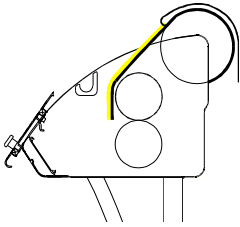

Figure 12
- Unroll the film on the top supply shaft, so that an adequate length is hanging over the top roller (see figures 12 & 13). If necessary, release the supply shaft brake.